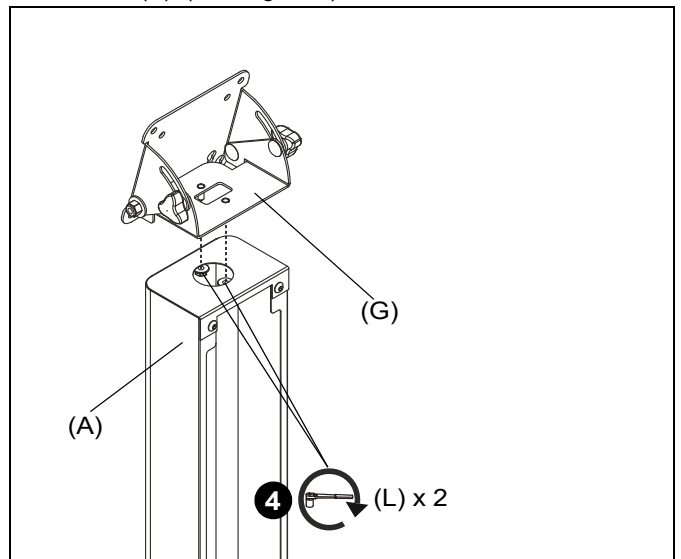

Figure 3
4. Use two #10-24 lock nuts (L) to install VESA adapter (G) to column (A). (See Figure 3)